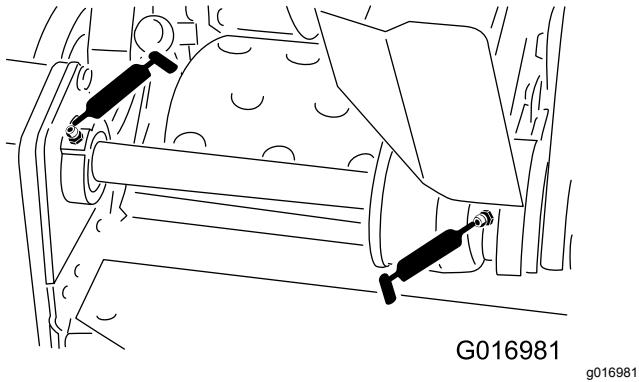

Figure 26
- 2 on the reel countershaft bearings (Figure 26)